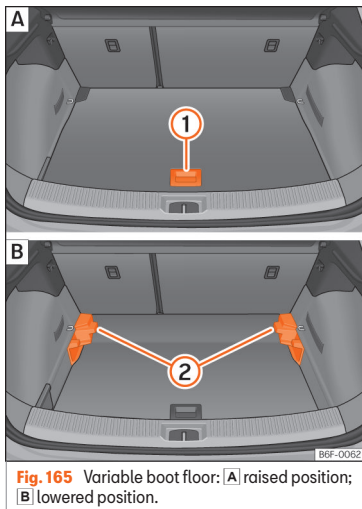

Fig. 165 Variable boot floor: |A| raised position; |B| lowered position.
- Lift the floor using handle »» Fig. 165 ① and pull it back until the front of the floor has fully passed the supports ②.
- Move the floor forward over the supports as far as the rear seat backrest and then lower the floor with the handle ①.